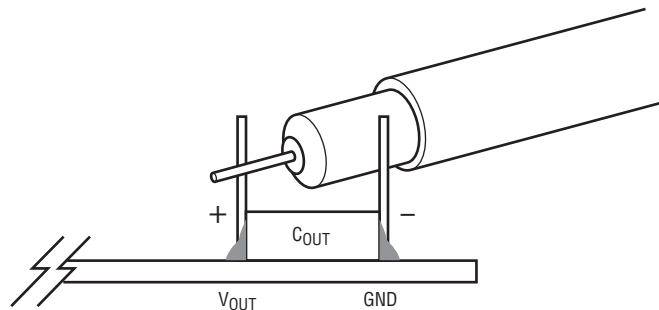

Figure 2. Measuring Input and Output Ripple
**NOTE:** When measuring the input or output voltage ripple, care must be taken to avoid a long ground lead on the oscilloscope probe. Measure the input or output voltage ripple by touching the probe tip directly across the terminals of the input or output capacitors. See Figure 2 for proper scope probe technique.